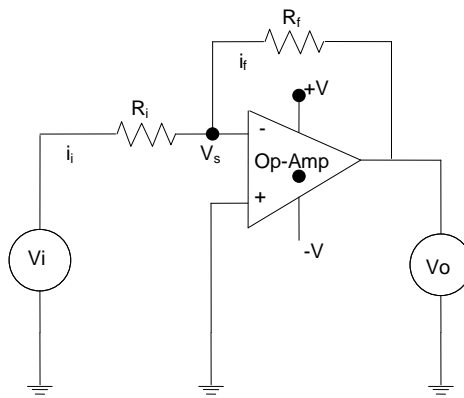

Fig. 1.5
The Fig. 1.5 shows an inverting amplifier using op amp. Input is applied to the inverting terminal through R_{in} . Non-inverting terminal is grounded. A suitable resistor R_F is connected across the amplifier from the output terminal back to the inverting input terminal. This negative feedback is used to **reduce and control the overall gain of the amplifier**. The junction of the input and feedback signal (X) is at the same potential as the